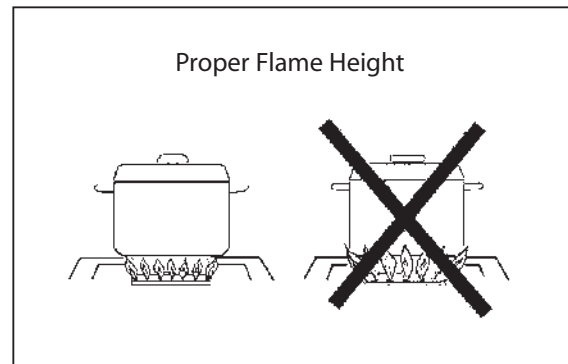

Fig. 08
- For safety reasons the flame must never extend beyond the bottom of the cooking utensil. Never allow flames to curl up the side of the pan (see Fig.08).